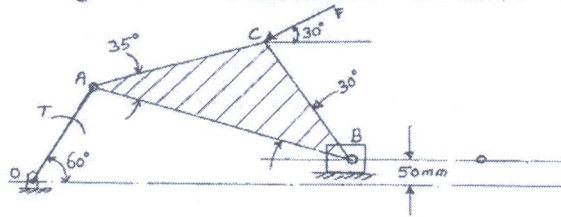

Fig. Q1 (b)
- b. For the mechanism shown in Fig. Q1 (b), find the required input torque for the static equilibrium. The lengths $OA = 250$ mm and $AB = 650$ mm, $F = 500$ N. (14 Marks)